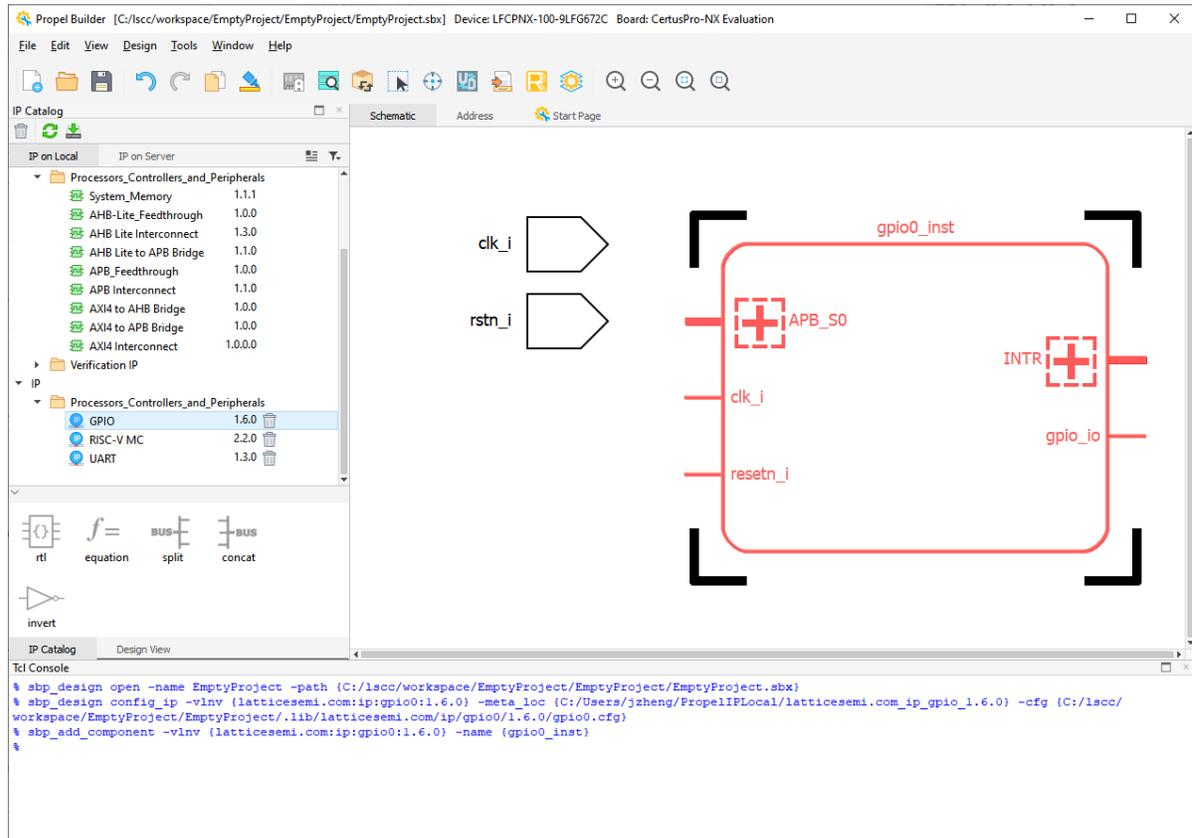

Figure 2.21. Propeller Builder Schematic View Shows the Module Instance
9. Click **OK**. The schematic block for the module appears in the **Schematic** view (Figure 2.21).